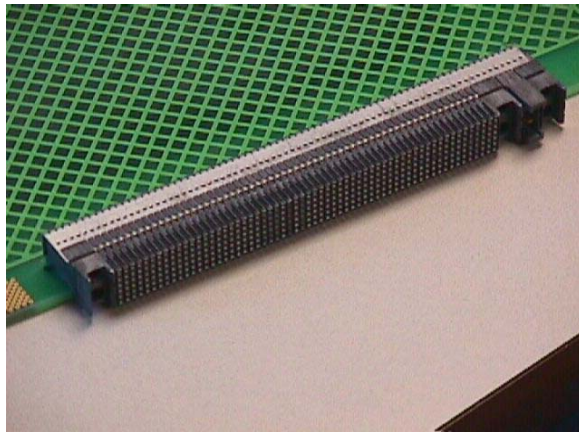

Figure 19
Step 8 Completely repaired assemble. See figure 19